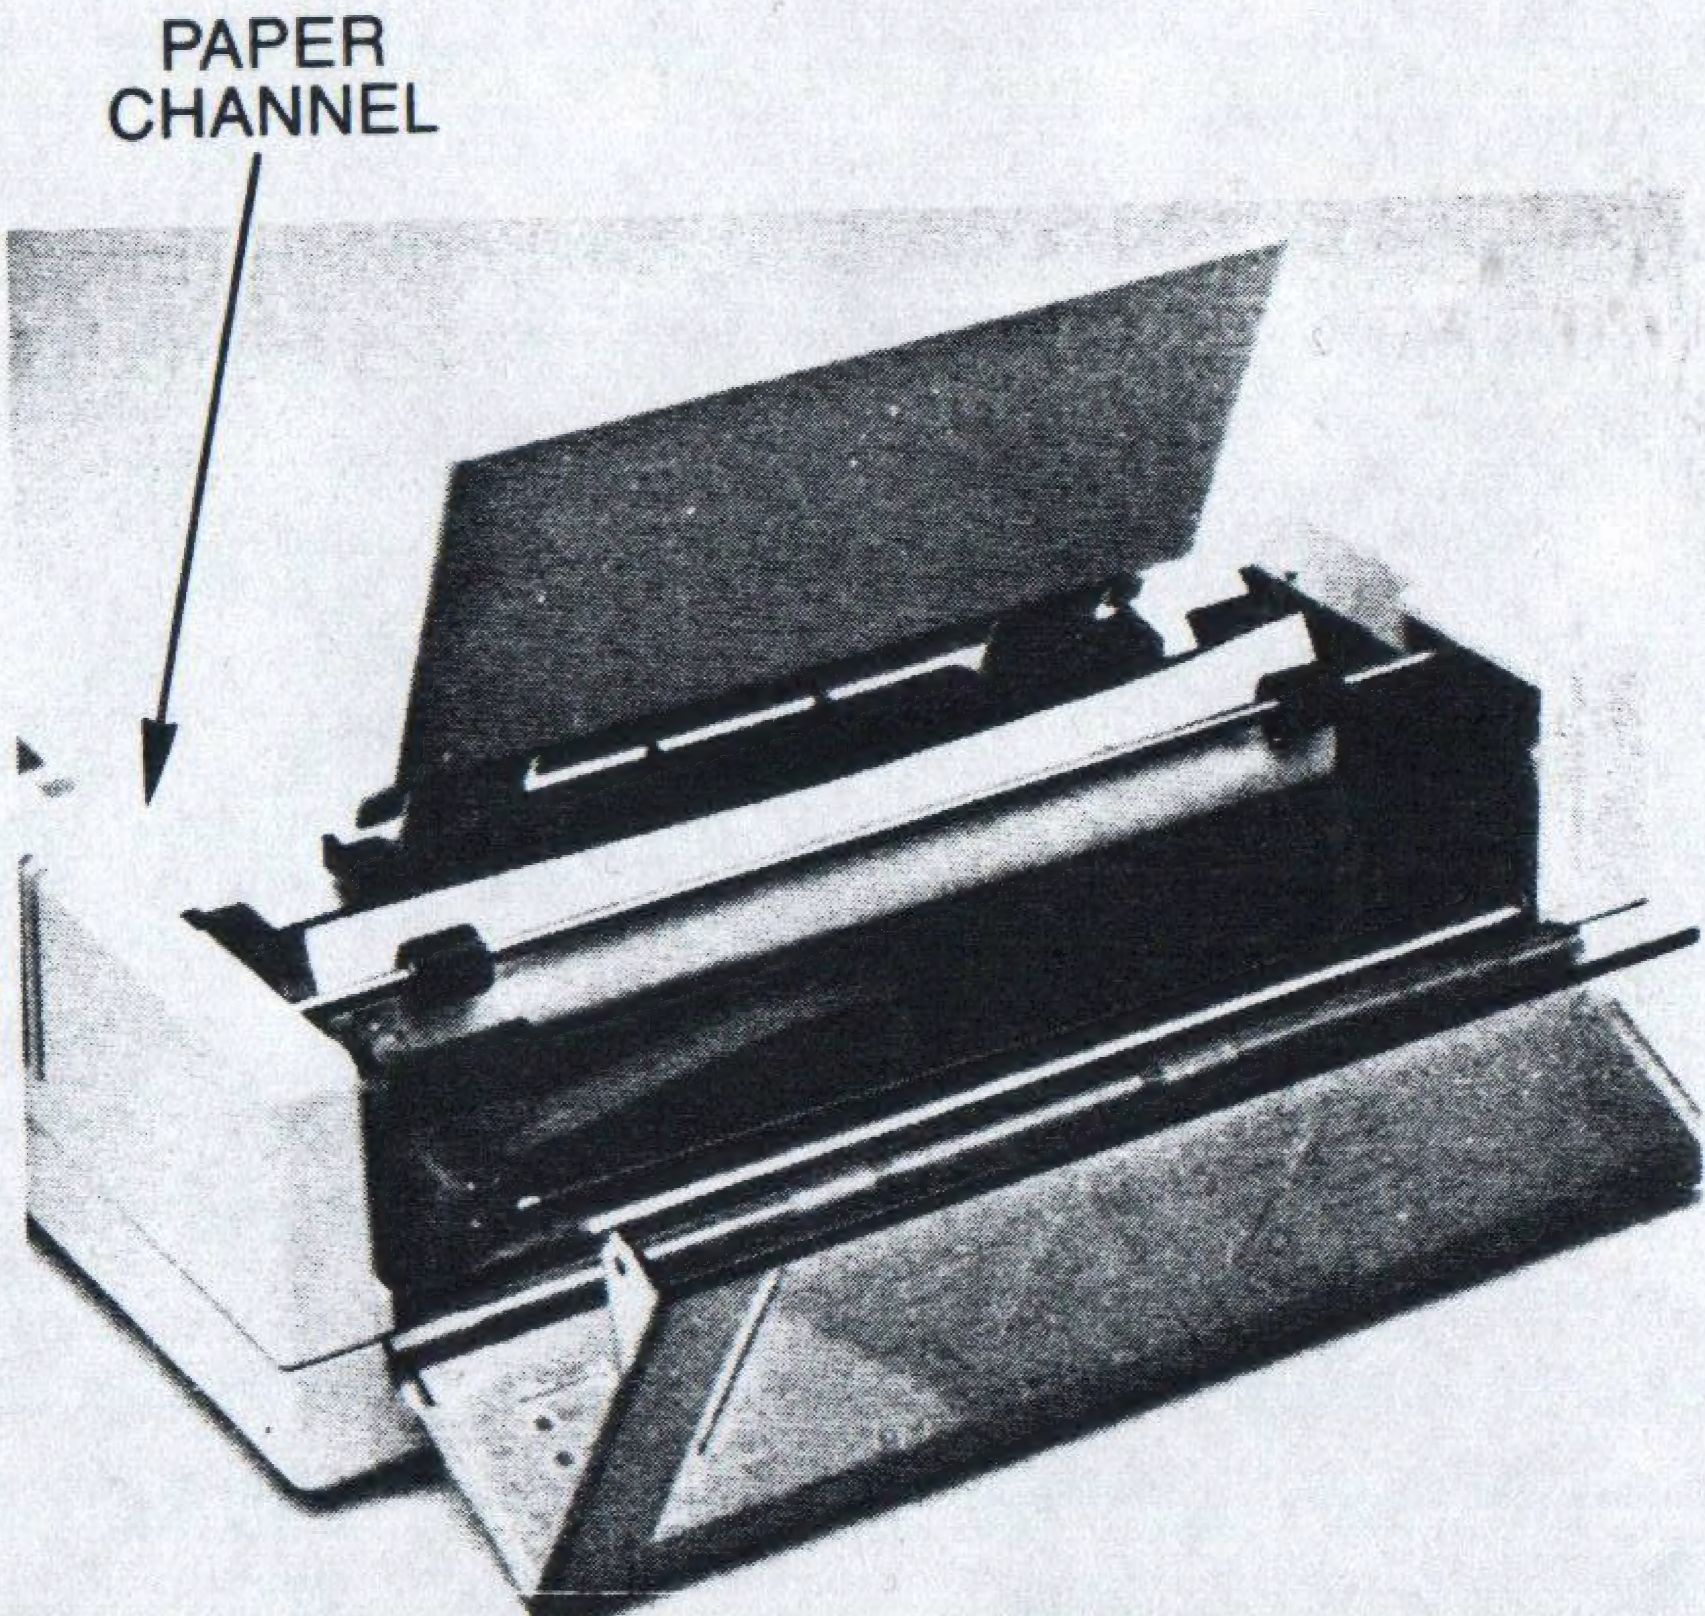

Figure 1-13 Single Sheet Paper
- Slide the paper into the slot under the paper separator. Align the left edge of the paper with the channel on top of the printer case as shown in Figure 1-13.